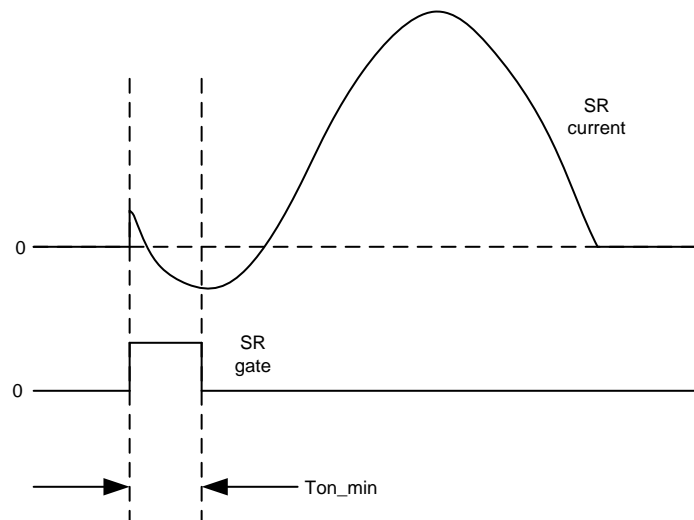

Figure 20. SR current with leading edge spike
- Short SR conduction time. At light load, the SR current could start with a short leading edge spike of positive current, followed by the negative current, and then the full positive current, as shown in Figure 20. This is caused by the SR parasitic capacitance and the LLC resonant behavior. When the negative current appears, the SR is turned off with minimum on time (on-time blanking). This is the indication that the leading edge current spike causes abnormal operation. Once the short SR conduction time is detected, the IC sets the turn-on delay to 275 ns. This long turn-on delay can further help to reject the leading edge current spike. It also helps to provide better DCM ring rejection during burst mode operation, since the burst mode operation only happens at light load. This increased turn-on delay time is reset when the SR voltage drop is more than 40 mV (V_{DS} more negative than -40 mV) at the middle of its conduction time for 8 consecutive cycles.